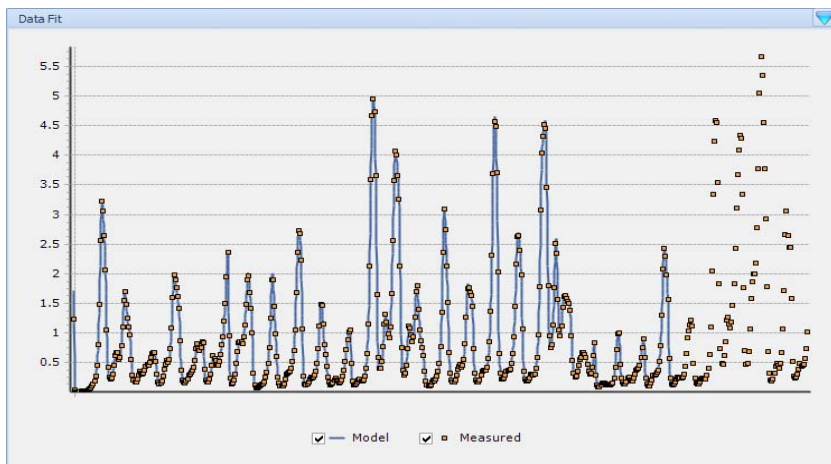

Figure 10.2 Data fit: measured data point vs. simulated values for nitrate concentration in the Anoxic tank
- The output of the PE experiment is shown in Figure 10.2 to Figure 10.4.